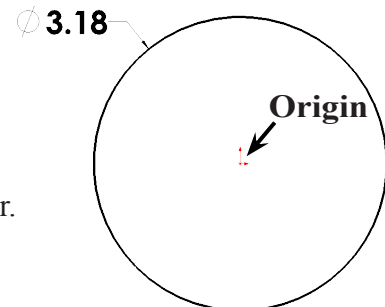

Fig. 2
Step 3. Click **Circle**  (S) on the Sketch toolbar.
Step 4. Draw a circle starting at the Origin , **Fig. 2**.
Step 5. Click **Smart Dimension**  (S) on the Sketch toolbar.
Step 6. Dimension circle **diameter 3.18**, **Fig. 2**.